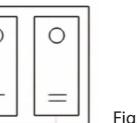

Fig.3
4. Draw up two finger nuts on one side and two finger nuts on the other - in clamp extensions passed through the wheel plate supports, after making sure that 2 openings in the wheel plate match together with the clamp extensions (see Figure 3).
- To select the first heating stage (440 W - Econom), put the left key on the electric heating switch located near the control panel in the upper part of the appliance body to I position (Fig.3).